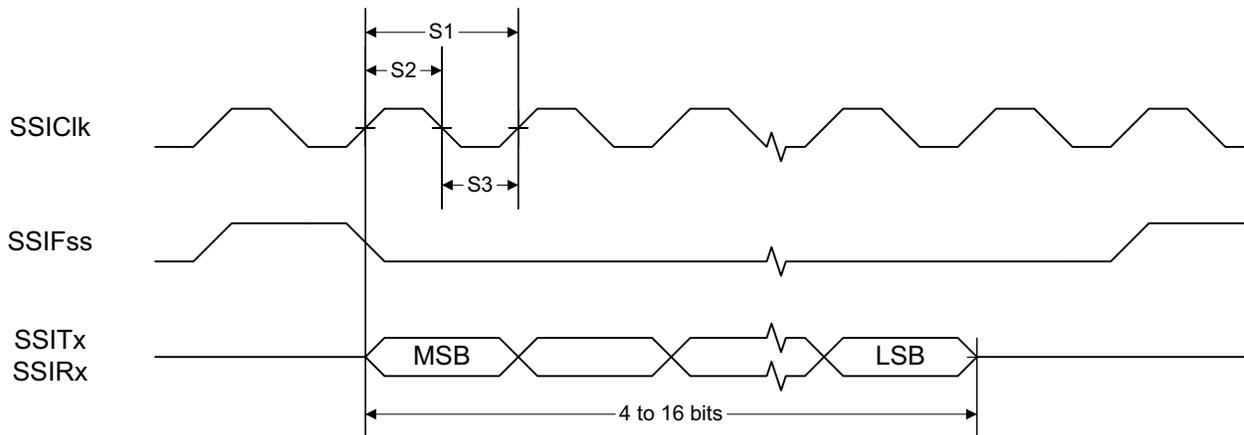
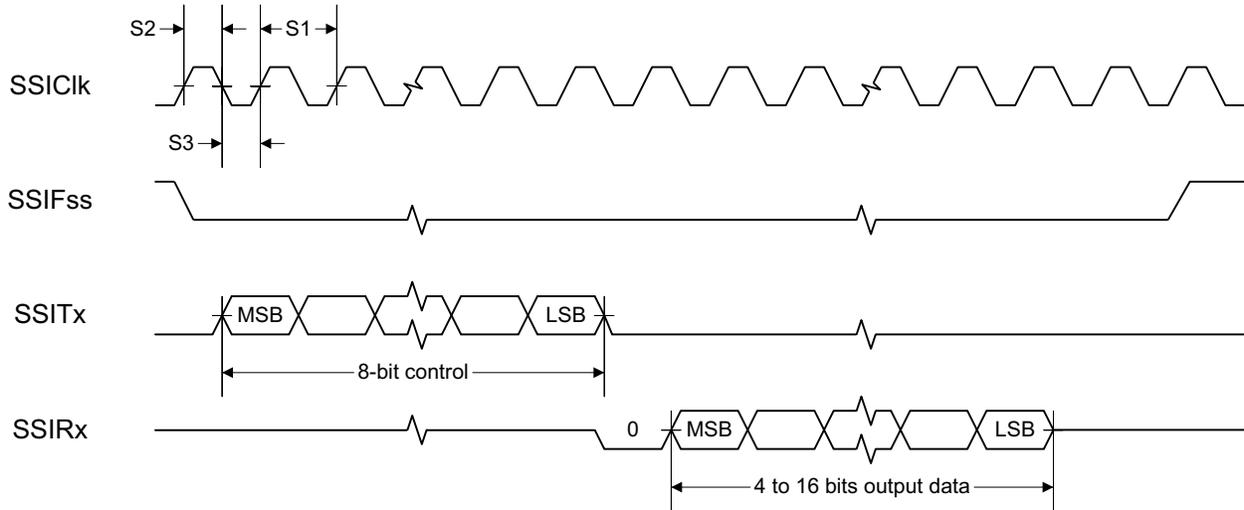
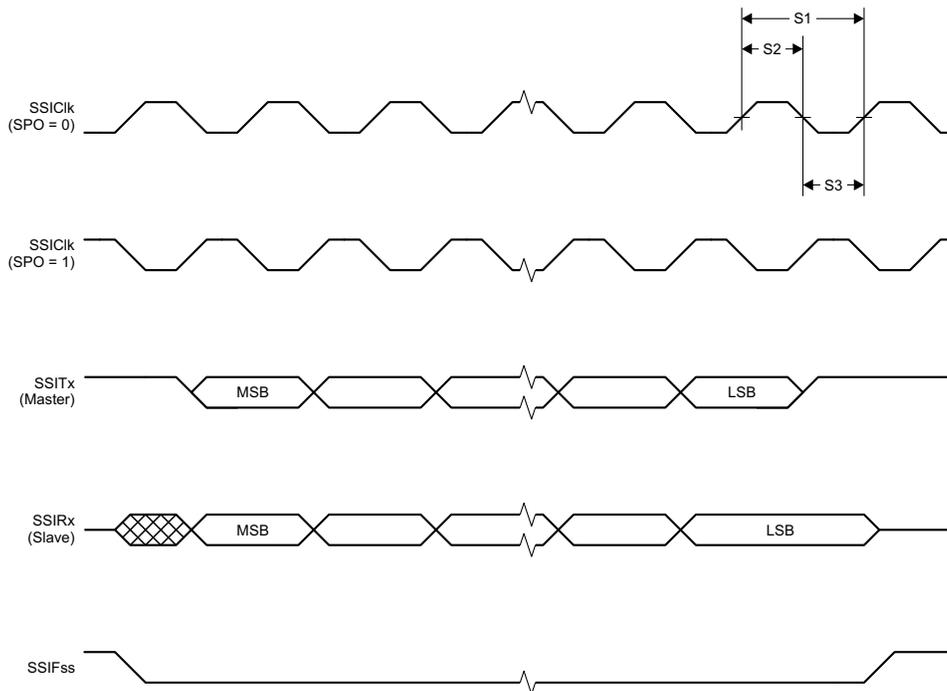

图 7-1. SSI Timing for TI Frame Format (FRF = 01), Single Transfer Timing Measurement
图 7-2. SSI Timing for MICROWIRE Frame Format (FRF = 10), Single Transfer
图 7-3. SSI Timing for SPI Frame Format (FRF = 00), With SPH = 1
- Refer to SSI timing diagrams 图 7-1, 图 7-2 and 图 7-3.